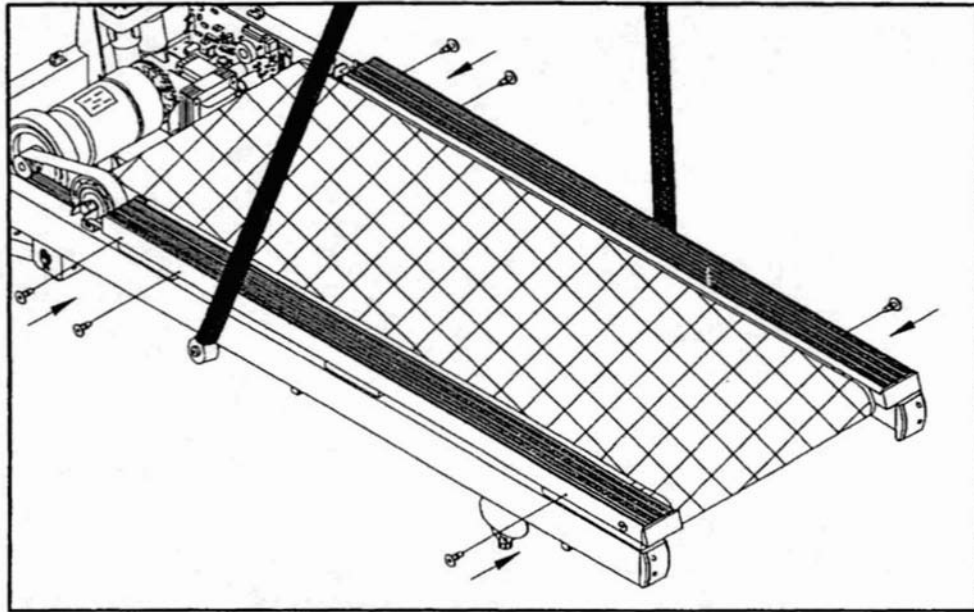

Fig.10
5. Then tighten all screws on both sides. (see Fig.10)